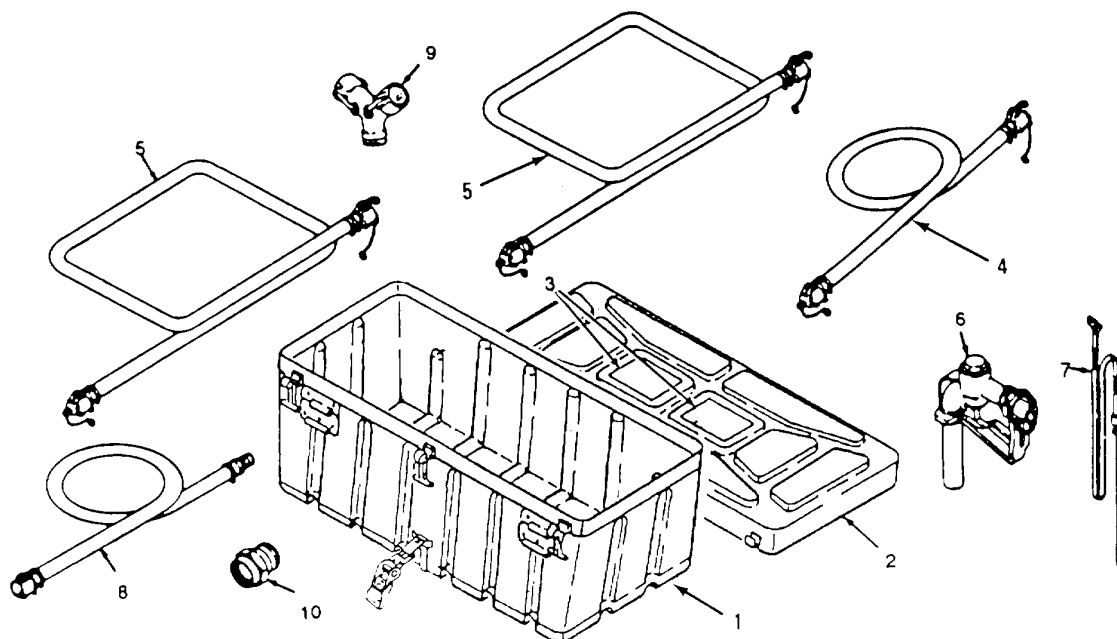

Figure 1-4. Storage Chest 2 and Related Pump Accessories
- (5) Suction Hose Assembly (one each)
- (6) Nozzle Assembly (one each)
- (7) Drum Suction Stub Unloader Assembly (one each)
- (8) Suction Hose Assembly (10 feet long) (part of drum suction stub unloader assembly) (one each)
- (9) Double Male Y-Connector (one each)
- (10) Female QD Coupling (one each)
- (11) Coupling Gasket (Installed in female QD coupling) (one each)
d. Storage Chest 2 and Related Puma Accessories (See Figure 1-4).
- (1) Storage Chest 2 Bottom (one each)
- (2) Storage Chest 2 Top (1 each)
- (3) Storage Chest 2 Information Plate (one each)
- (4) Discharge Hose Assembly (one each)
- (5) Suction Hose Assembly (two each)
- (7) Ground Rod With Attachments (one each)
- (9) Double Female Y-Connector (one each)
- (10) Male QD Reducer (one each)